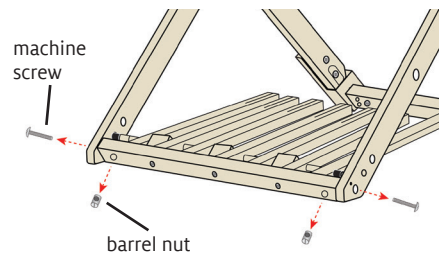

FIGURE 5: REMOVE THE TREADLE ASSEMBLY
- 10.** Remove the treadle assembly from the inside legs by unscrewing the machine screws from the barrel nuts, as shown in Figure 5. Spread the inside legs apart and remove the treadle support. Set aside the barrel nuts for step 17.